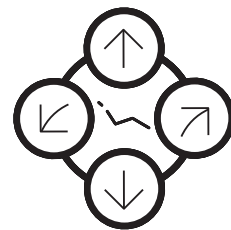

Fig.3-8 Chair Manual Control Switch
⑤ Chair Manual Control Switches (Fig.3-8) **A E**